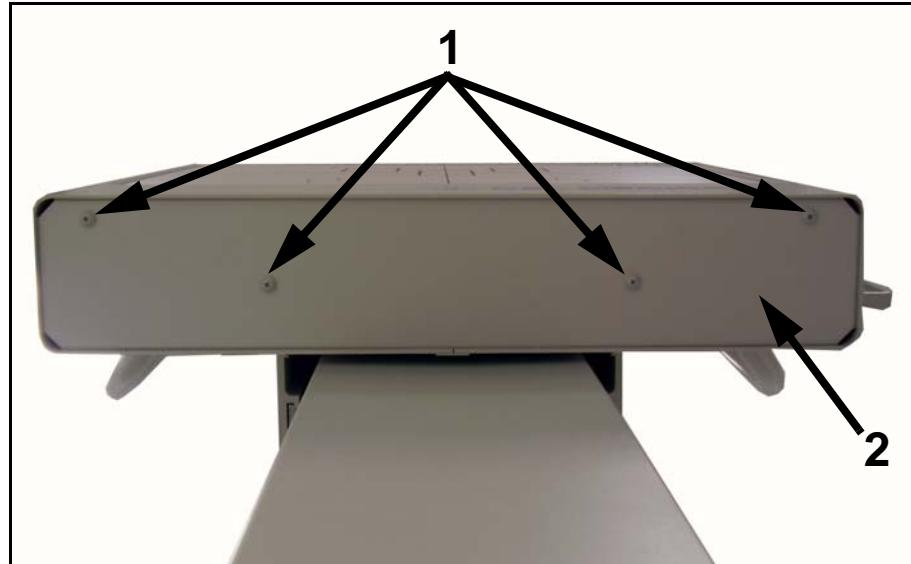

Figure 6-11. Bottom Cover Screws
- 2 Unscrew four bottom cover screws (1 in Figure 6-11) and remove bottom cover (2).
- 2 Unscrew four cover screws (1 in Figure 6-11) and remove ION cover (2).